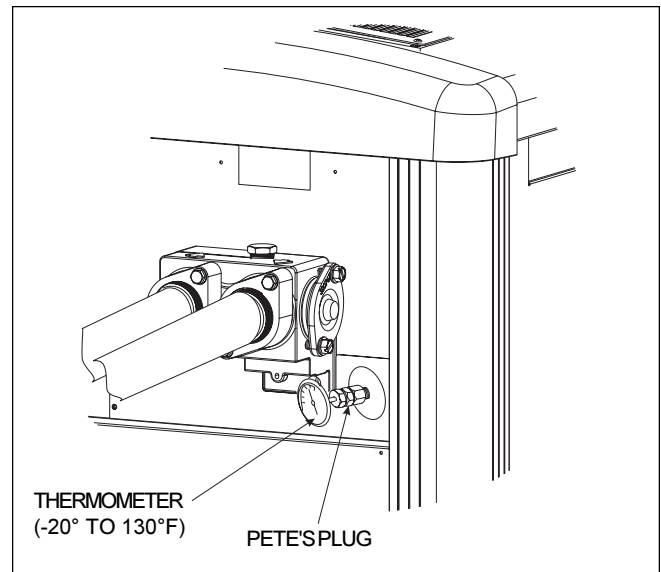

Figure 28. Temperature Rise Measurement
4. Remove the drain plug located on the inlet/outlet header of the heater and replace it with a Pete's plug (see Figure 28).
5. Insert a pocket thermometer (see Figure 28) through the Pete's plug into the header.
3. Remove the drain plug located on the inlet/outlet header of the heater and replace it with a Pete's plug (see Figure 28).